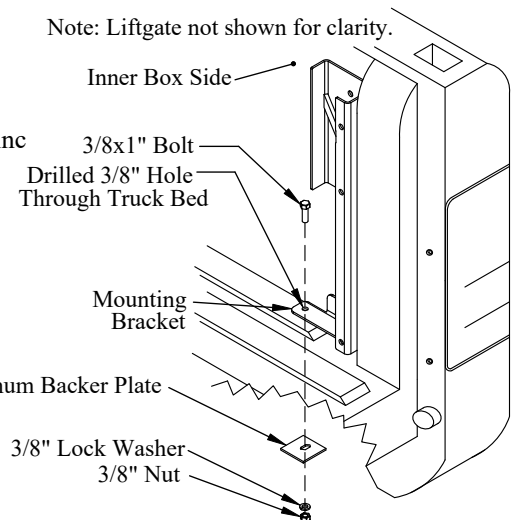

Figure 12: Mounting bracket and backer plates.
8. **Drill** a 3/8" hole into the truck bed floor using the hole in the bracket as a guide (Figure 12).
9. **Fasten** each bracket to the truck box using the supplied (Figure 12):